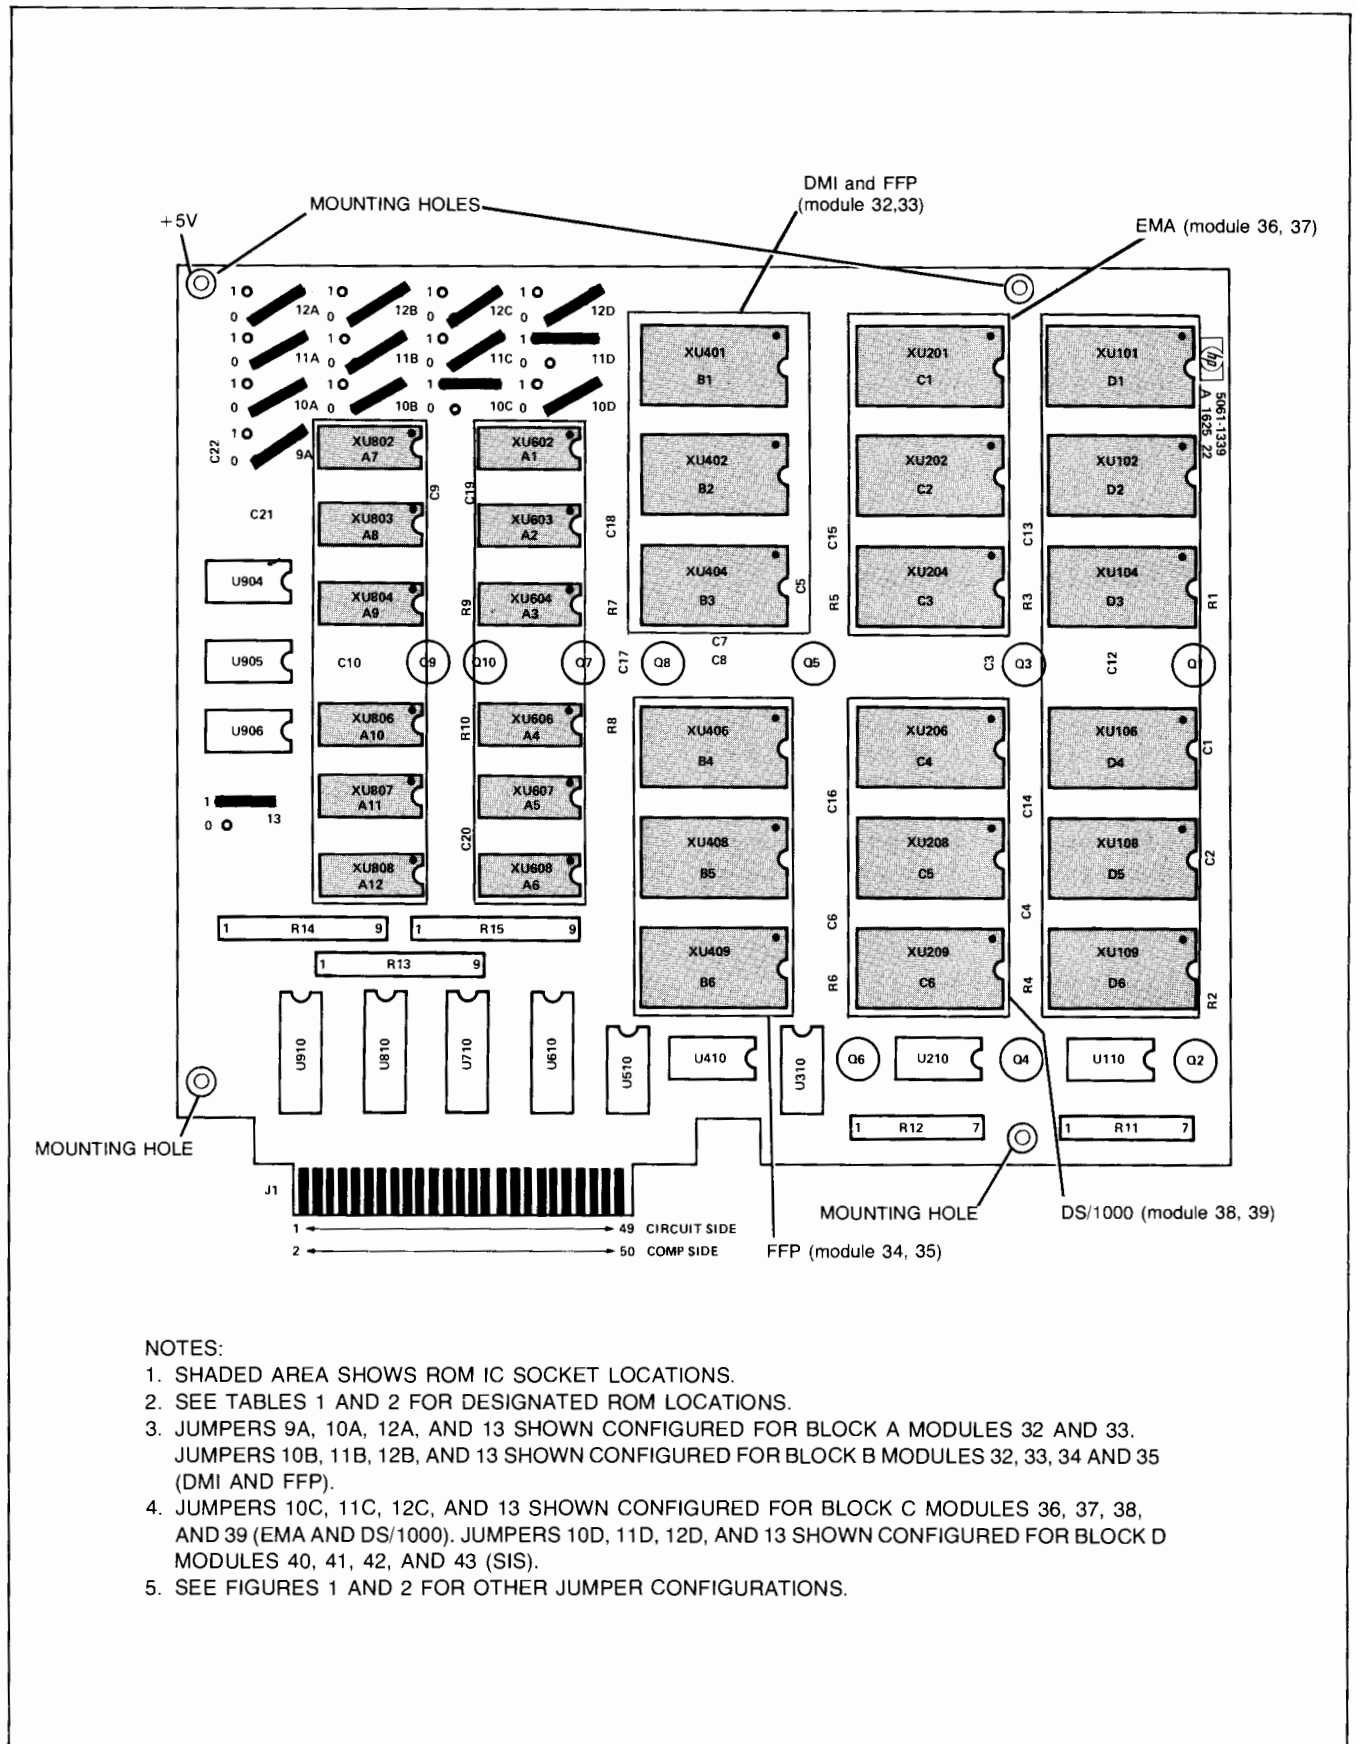

Figure 1-2. Firmware Accessory Board
3. See figure 1-2 for jumper locations.
1K ROM IC's in sockets A1 through A6. If part of the microprogram operates in the MSM (27400_s, to 27777_s), install the corresponding six 1K ROM IC's in sockets A7 through A12. (Refer to table 1-1 and figure 1-2.) Ensure that the IC's are oriented correctly as shown in figure 1-2 by matching pin 1 of each IC with the white dot of each IC socket.
Figure 1-2 shows the locations of the addressable block jumpers and ROM IC sockets. The shaded areas show the location of each ROM IC socket. Jumpers are designated 9A through 12A, 10B through 12B, 10C through 12C, 10D through 12D, and 13. The numerical jumper notations represent the ROM address register bits 9 through 13. The alphabetical jumper notations represent the associated block of addressable control store. In other words, jumper notations A, B, C, and D correspond to blocks A, B, C, and D, respectively.
3. See figure 1-2 for ROM locations.
3. If part of the microprogram operates in the LSMP (34000₈ to 34777₈), install the corresponding three 4K ROM IC's in sockets B1 through B3. (Refer to table 1-2 and figure 1-2.) If part of the microprogram operates in the MSMP (35000₈ to 35777₈), install the corresponding three 4K ROM IC's in sockets B4 through B6. Although blocks B, C, or D may be used, it is recommended that block B be used first, block C second, and block D last. Ensure that the IC's are oriented correctly as shown in figure 1-2 by matching pin 1 of each IC with the white dot of each IC socket.